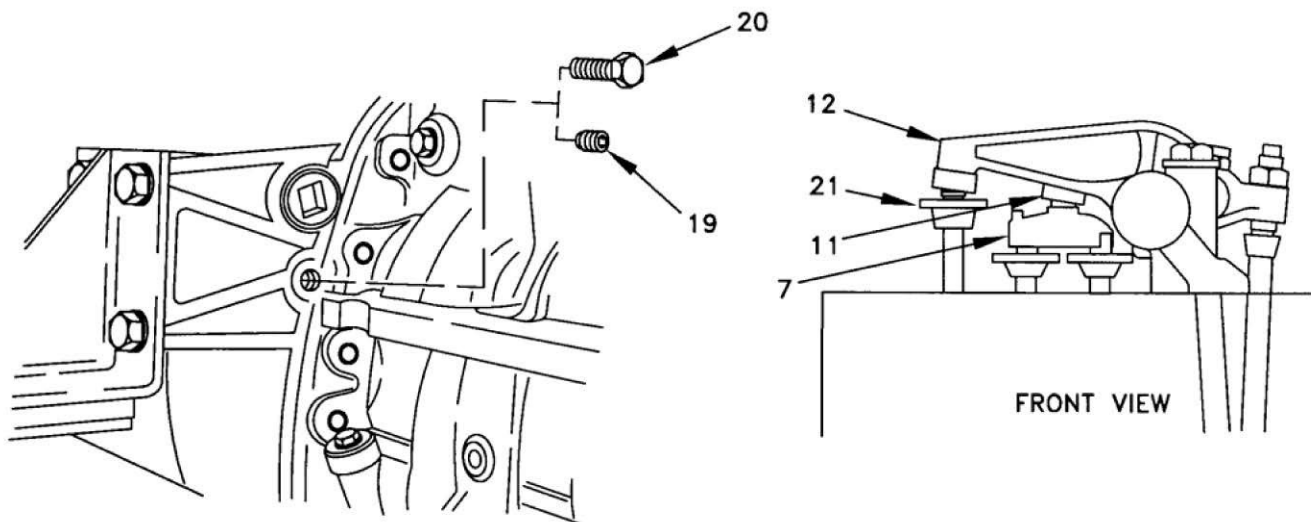

Figure 2. Valve Clearance Measurements.
2. Remove plug (Figure 2, Item 19) from timing hole on right front side of flywheel housing. Insert timing bolt (Figure 2, Item 20) through timing hole.
3. Using four large bolts on crankshaft retaining plate, turn flywheel in direction of normal engine rotation until timing bolt (Figure 2, Item 20) engages hole in flywheel.
4. If flywheel is turned beyond point of engagement, turn flywheel in opposite direction approximately 30 degrees. Then turn flywheel in direction of normal engine rotation until timing bolt (Figure 2, Item 20) engages hole in flywheel.
7. For inlet valves, valve lash is measured between rocker arm (Figure 2, Item 11) and bridge (Figure 2, Item 7). For exhaust valves, valve lash is measured between rocker arm (Figure 2, Item 12) and valve stem (Figure 2, Item 21).
8. Tap each inlet rocker arm (Figure 2, Item 11) and each exhaust rocker arm (Figure 2, Item 12) with a soft face mallet. Check valves for correct valve lash shown in Table 2. Valves within the acceptable range do not have to be adjusted.
11. Remove timing bolt (Figure 2, Item 20) and install plug (Figure 2, Item 19) on flywheel housing.